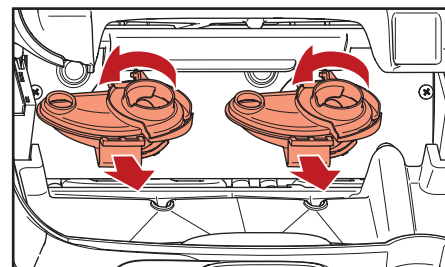

Fig. 5.10- Remove mixing bowls
- b. Rotate the mixing bowls counter-clockwise to release and pull to remove them (fig. 5.10).